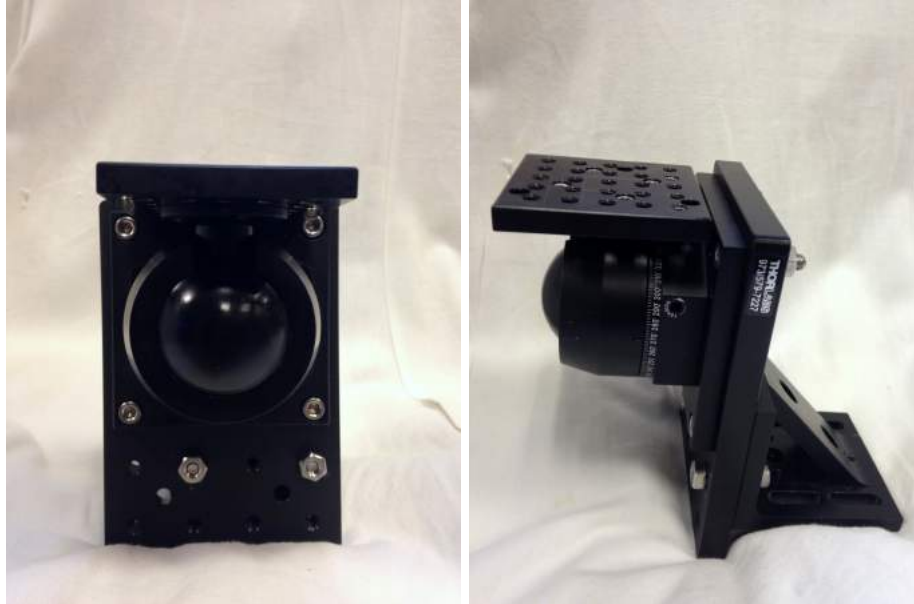

Figure 44: Step 2
2. Use 3/4” screws (x4) to attach the base of the rotating mount (SL20) to the side of the 4x6 plate that does not contain the 90 degree bracket. Refer to Figure 44 and 45 for placement.